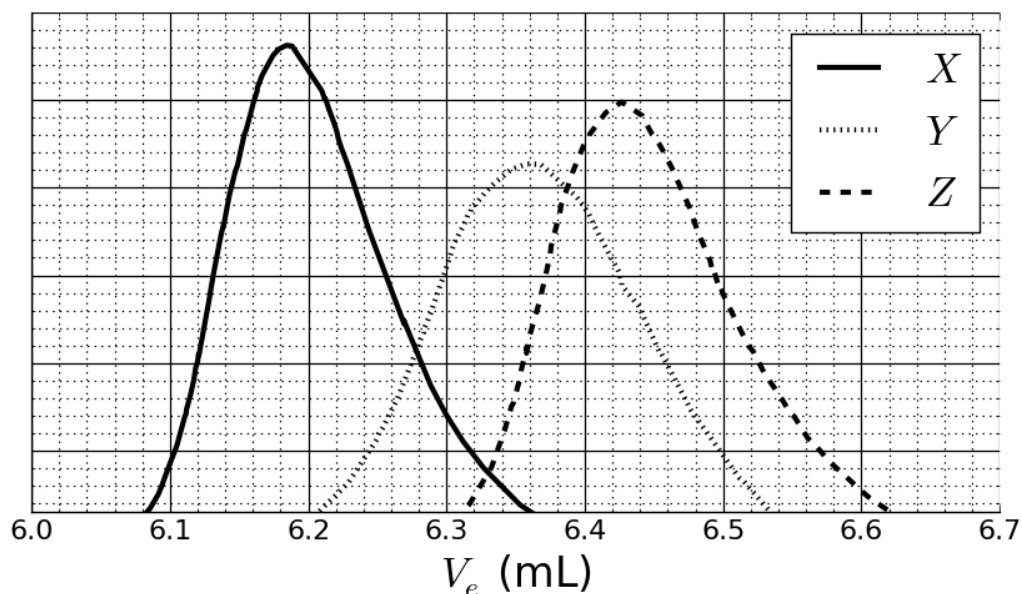

Fig. 2 – SEC chromatograms of **3a**, **3b** and **3c** as a function of the elution volume, V_e .
This reaction of **1** with **2** yielded the copolymers **3a** after 20 h, **3b** after 25 h and **3c** after 30 h of reaction at 40 °C. Results of size-exclusion chromatography (SEC) experiments are presented in Fig. 2.
6. **Match** the signals in Fig. 2 with the copolymers **3a**, **3b** and **3c**.
7. Based on the SEC curves in Fig. 2 and 3, **determine** V_e of the polymer that corresponds to curve X and use it to **estimate** the degree of polymerization m of its second block. **Detail** your calculation; you may use a calculator or plot a graph.